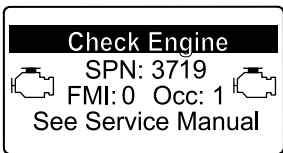

Figure 57
- Engine warning SPN 3719, FMI 0 (Figure 57)